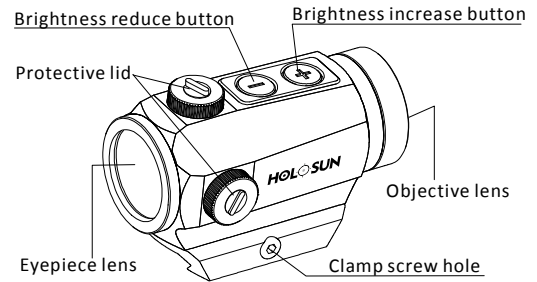

Fig1 PARALOW HS403A Red Dot Sight
- First open the protective cap (see Fig1), position slot type screwdriver on the slotted screw, then rotate the screw to right or left for adjustment. Each left or right click is for one adjustment, equivalent to 0.5MOA value.